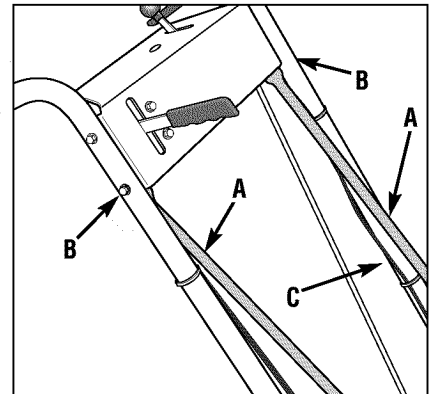

Figure 2-1
6. Securely tighten the screws (B, Figure 2-1) at the upper ends of the struts.